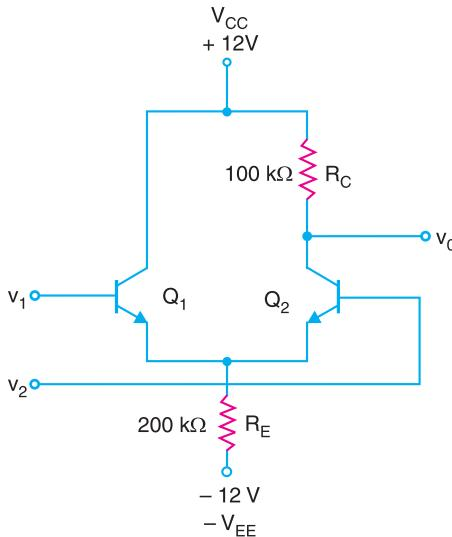

Fig. 25.37
**Example 25.20.** For the circuit shown in Fig. 25.37, find (i) the common-mode voltage gain (ii) the CMRR in dB.